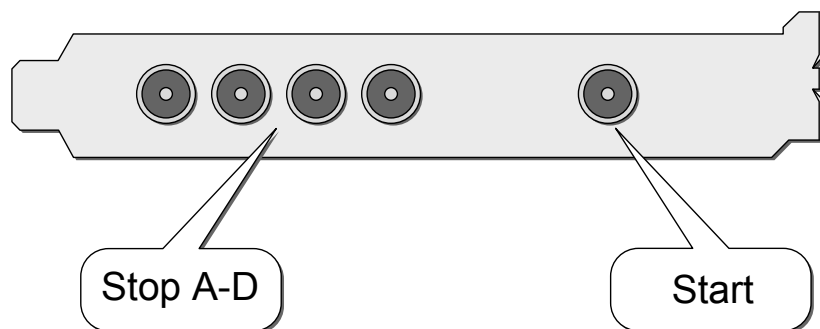

Figure 2.2 Input connectors of the TimeTagger4 on the PCIe bracket.
Figure 2.2 shows the location of the inputs on the slot bracket.
- The NIM signal was connected to the appropriate input channel (see Figure 2.2).